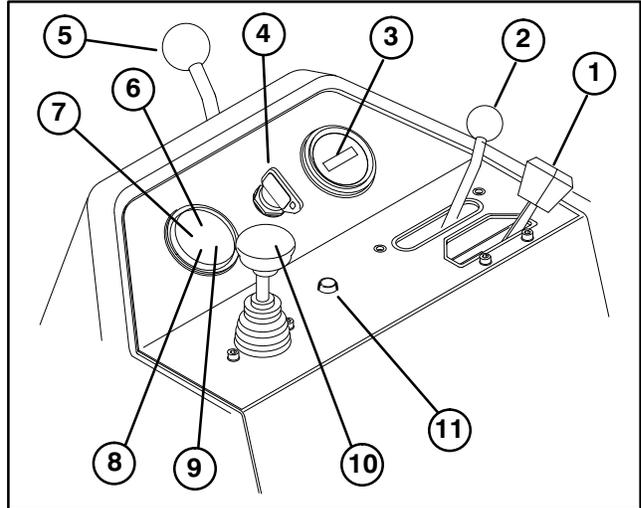

Figure 20
Throttle Control (Fig. 20) – The Throttle Control gives the operator the ability to control the speed of the engine. Moving the Throttle Control toward the “FAST” position increases engine RPM; moving Throttle Control toward “SLOW” will decrease engine RPM.
Functional Control Lever (Fig.20) – Provides two (2) traction selections, plus a “NEUTRAL” position. It is permissible to shift from mow to transport or transport to mow (not to neutral) while the Greensmaster 3200–D is in motion. No damage will result.
Hour Meter (Fig.20) – Indicates the total hours of machine operation. The hour meter starts to function whenever the key switch is rotated to “ON”.
Ignition Switch (Fig. 20) – Insert key into switch, turn clockwise as far as possible to “START” position to start engine. Release key as soon as engine starts; key will move to “ON” position. Turn key counter-clockwise to “OFF” position to stop engine.
Steering Arm Locking Lever (Fig.20) – Rotate lever rearward to loosen adjustment, raise or lower steering arm for operator comfort, then, rotate lever forward to tighten adjustment.
Water Temperature Light (Fig. 20) — Light glows and engine automatically shuts-down when engine coolant temperature gets too high.
High Temperature Override Button (Fig. 20) —If engine kills due to an over heat condition, press over ride button in and hold until machine can be moved to a safe location and allowed to cool down.
Glow Plug Indicator Light (Fig. 20) – When lit, indicates glow plugs are on.
Battery Warning Light (Fig. 20) – Light glows if battery charge is low.
Oil Pressure Light (Fig. 20) — Light glows if engine oil pressure drops below a safe level.
Raise / Lower – Mow Control (Fig 20) – Moving control forward, during operation, lowers the cutting units and starts the reels. Pull back on control to stop reels and raise cutting units. During operation reels can be stopped by pulling back on control momentarily and releasing. Restart reels by moving control forward.